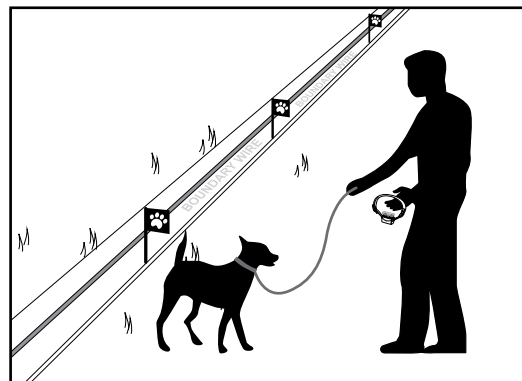

figure 33
6. When your dog hears the Warning Tone from the Receiver Collar quickly turn and walk your dog away from the Boundary Flags (fig. 33). Do not verbally correct the dog.